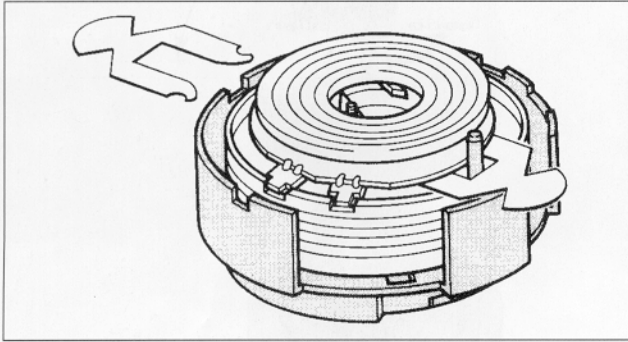

Fig. M6
- Insert the two mylar foils (included with each new upper cylinder) in the upper cylinder. (Fig. M6)